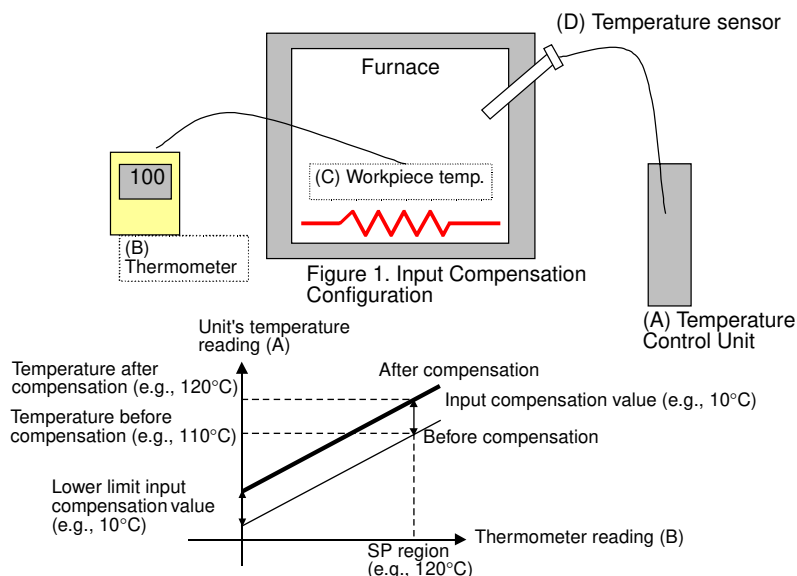

Figure 2. Compensation Graph of 1-point Compensation
2 The input compensation value is just the difference between the workpiece's temperature (B) and the Temperature Control Unit's reading (A). Figure 2 shows the process values before and after compensation.